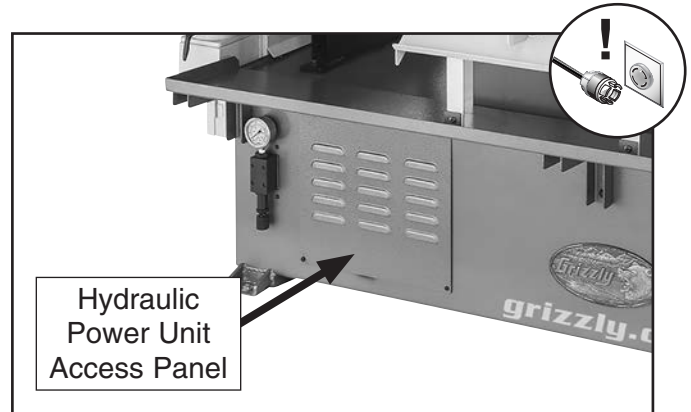

Figure 86. Hydraulic power unit access panel location.
3. Remove hydraulic power unit access panel (see **Figure 86**).